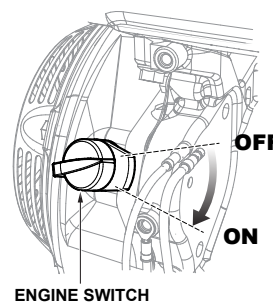

Figure 17. Engine On/Off Switch
4. Turn the engine switch (Figure 17) to the **ON** position.